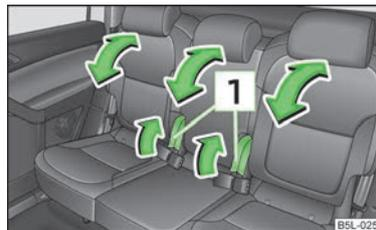

Fig. 50
- Pull the lever  » Fig. 50 and adjust the required inclination of the seat backrest.
- > Pull on the lever **1** » Fig. 50 on page 60 and fold the seat backrests of the outer rear seats onto the seat cushion as far as the stop.
- > Fold the middle rear seat backrest forwards in the same way, then pull once more on the lever **1** » Fig. 50 on page 60 and press the seat backrest downwards until it is heard to lock into a lower position.